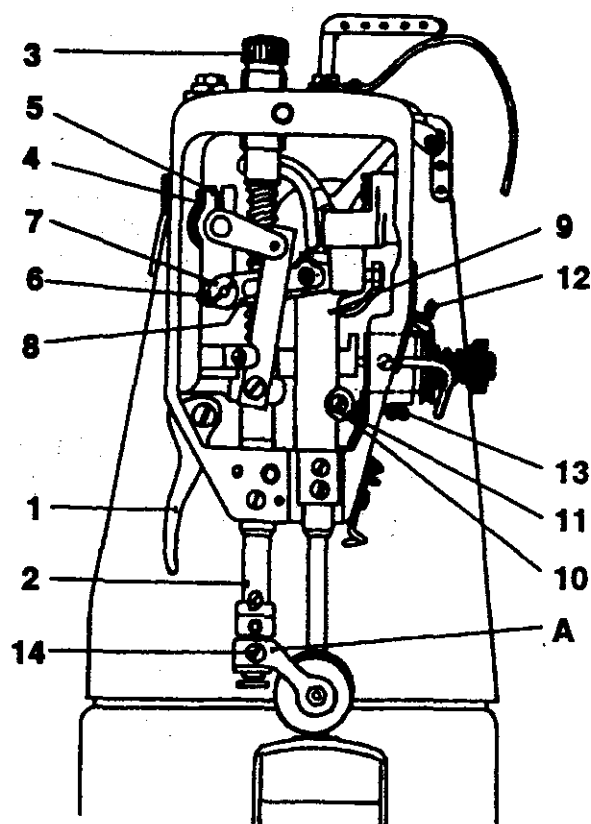

Fig. 10
6. To adjust the movement of needle with respect to feed-dog and feeding (Fig. 10, Chart No. 12)
- f) Remove the front post bed cover, loosen the screw (4, Fig. 10) of the lever (5) and adjust the needle onto the feed-dog aperture center. Then retighten the screw.
- h) Adjust maximum stitch length. If the different feeding between needle and feed-dog has been accomplished, carry out the adjustment by revolving of the eccentric (7) which is connecting the lever (5) and the conrod (8) with the needle bar holder (9) after the screw (6, Fig. 10) has been loosened. In the end retighten the screw again.
8. To adjust needle bar height (Fig. 10)
12. To adjust function of adjusting spring (Fig. 10)
13. To adjust pressure of presser bar - top roller (Fig. 10)
17. To exchange top roller (Fig. 10)